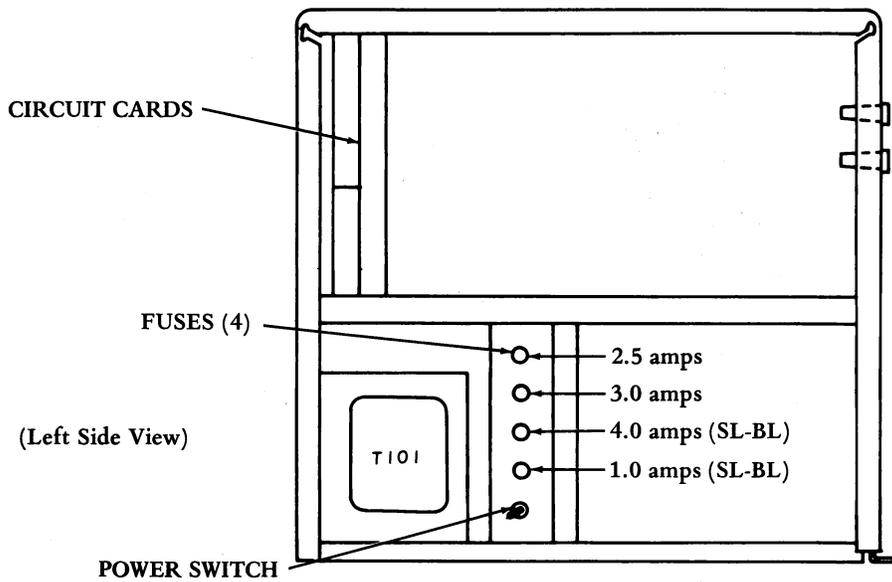

Figure 8 - Electrical Service Unit - Showing Location of Fuses
6.03 All fuses are located in the power supply pack. Amperage is shown by each fuse (Figure 8).